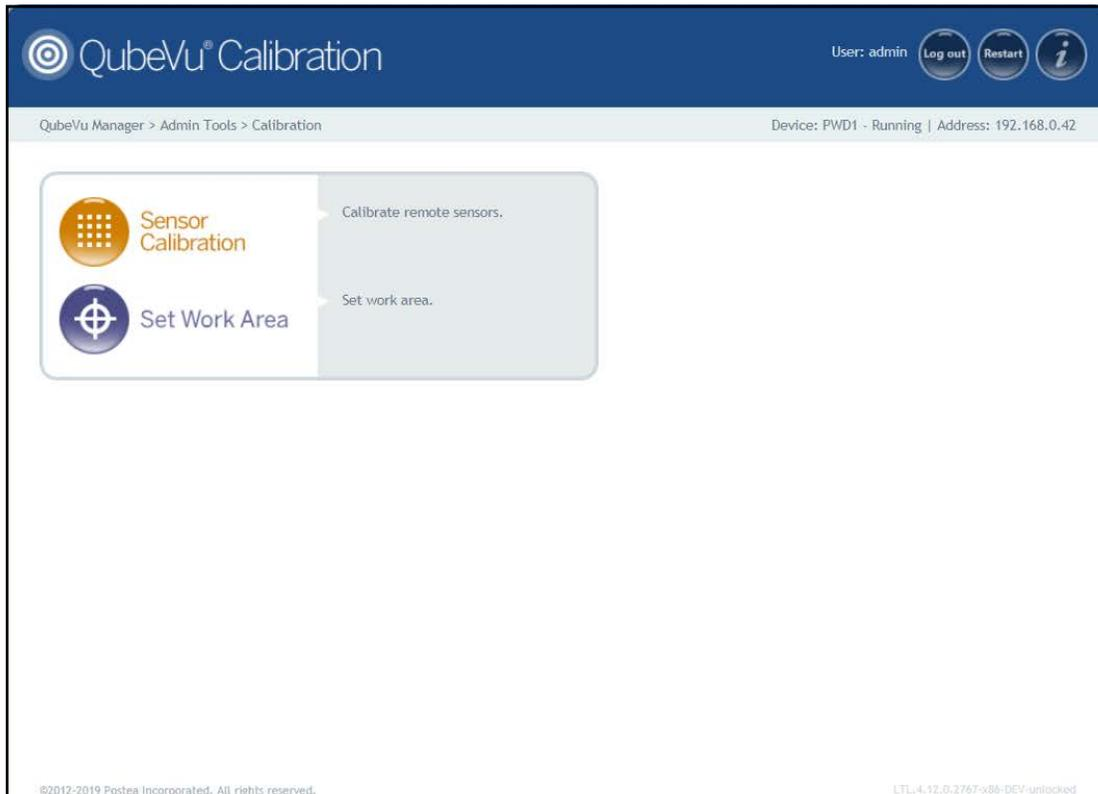

Figure 5-3. Calibration Menu
1. Press  from the **Calibration** menu (Figure 5-3 on page 21) to enter the **Remote Sensors Calibration** menu.
1. Press  **Set Work Area** from the **Calibration** menu (Figure 5-3 on page 21) to enter the **Set Work Area** menu.